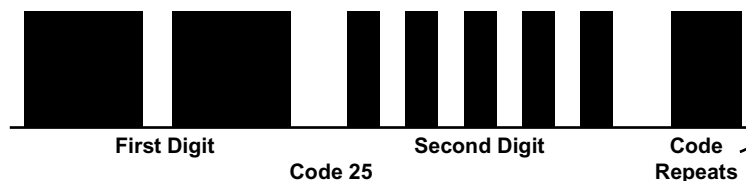

Figure 8-20 Honda engine Code Type 03
- Type 03, see Figure 8-20 and Table 8-4 on page 72